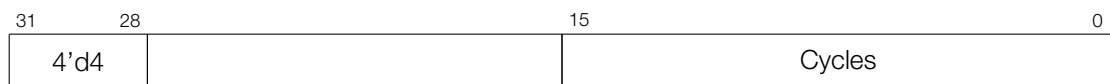

Figure 165: Instruction Type – WAIT
**Operand**    **Description** - see Figure 165